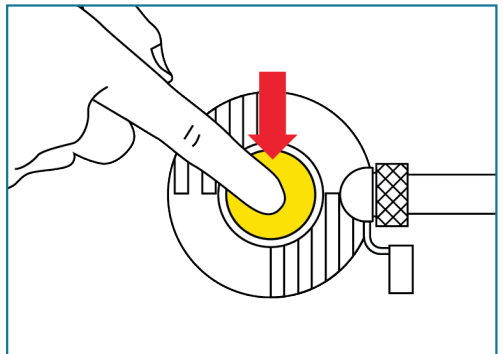

Fig. 8
Test the low pressure (LP) air injection valve fig 8 by pressing gently once for just a second. Air should enter the housing through the valve. Make sure both pressure release valves are semi closed when doing so in case you over inflate the housing.